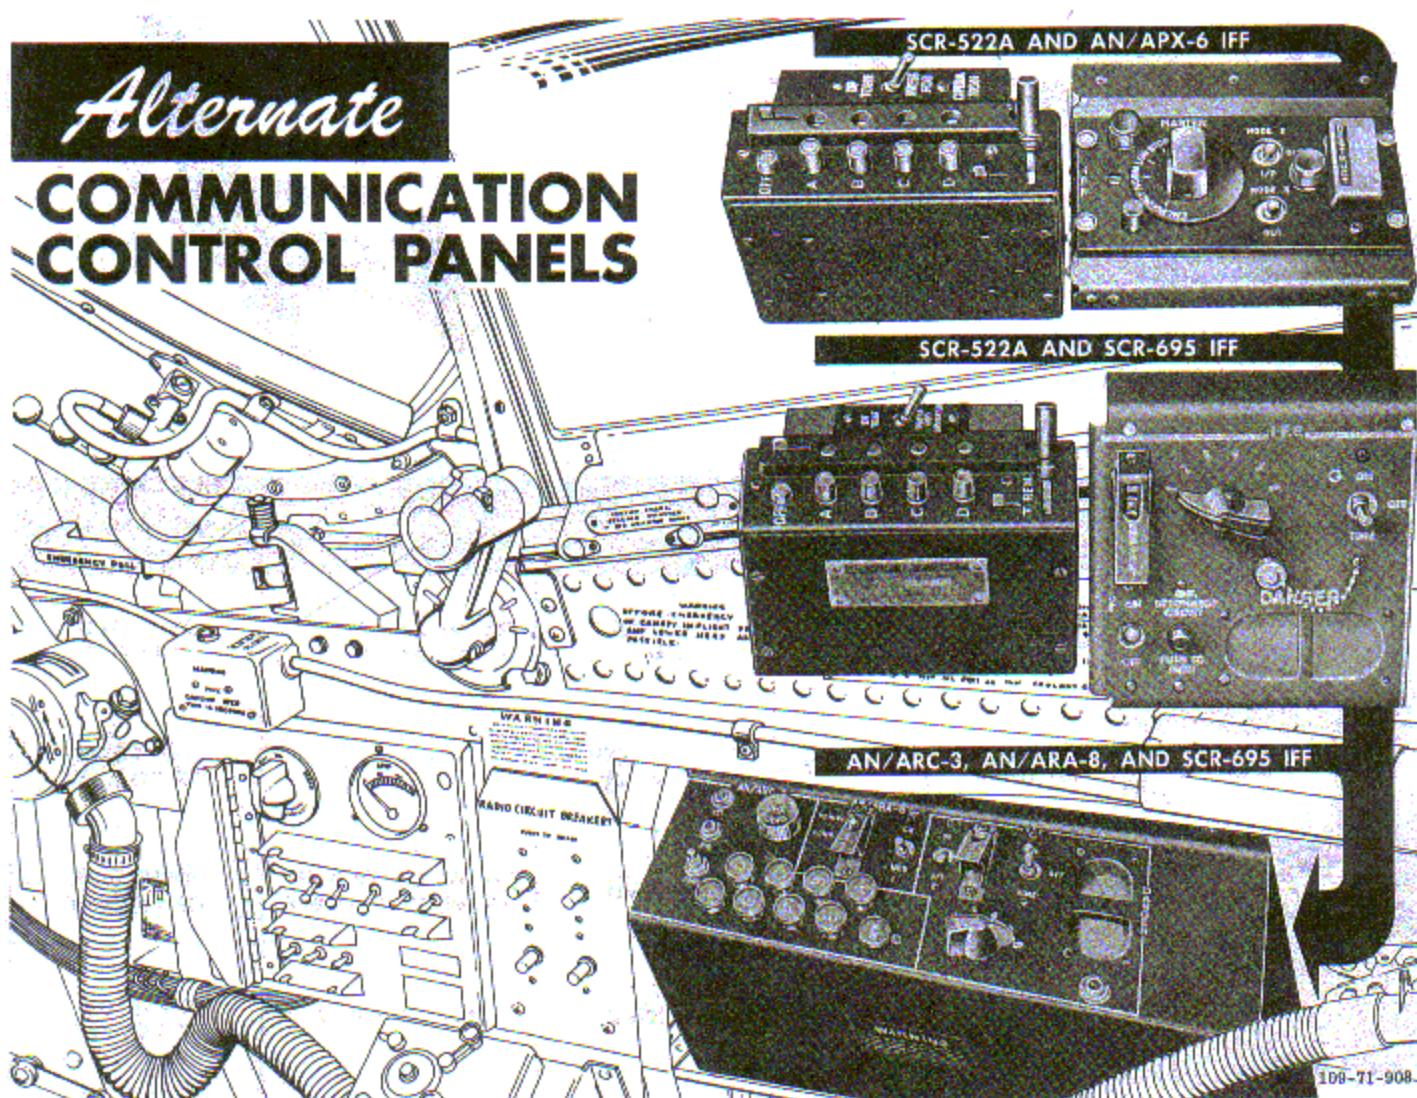

Figure 4-4
1. Push desired channel button (figure 4-4) on control box and allow approximately 30 seconds for set to warm up. When audio tone that is heard in headset during latter portion of warm-up period stops, set is ready for operation.
1. Place selector switch (figure 4-4) in MCW position.
1. To operate homing adapter, move "HOMING-COMM.-TRANS." switch (figure 4-4) to HOMING position.
1. Rotate code selector (figure 4-4) to desired position.